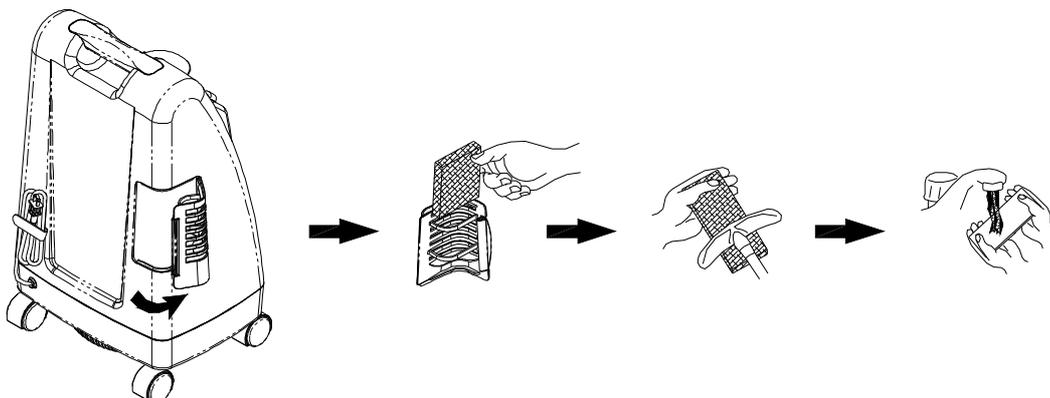

FIGURE 5 — REMOVE THE CABINET FILTER
1. Remove the cabinet filter and **CLEAN AT LEAST ONCE A WEEK** depending on environmental conditions. (FIG.5)
2. Clean the cabinet filter with a vacuum cleaner or wash in warm soapy water and rinse thoroughly. (FIG. 5)